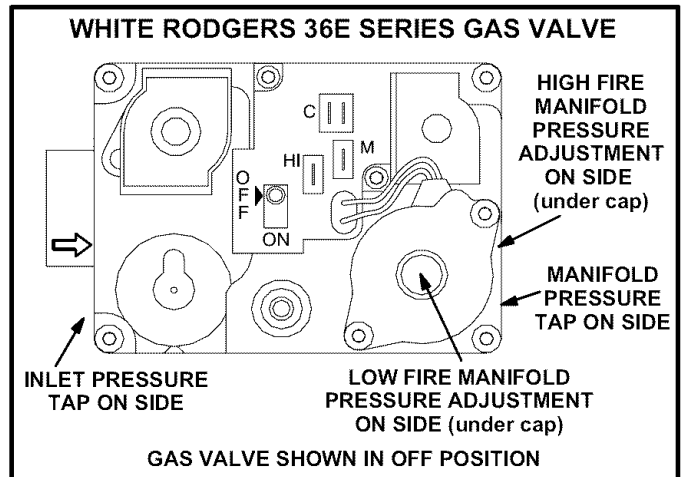
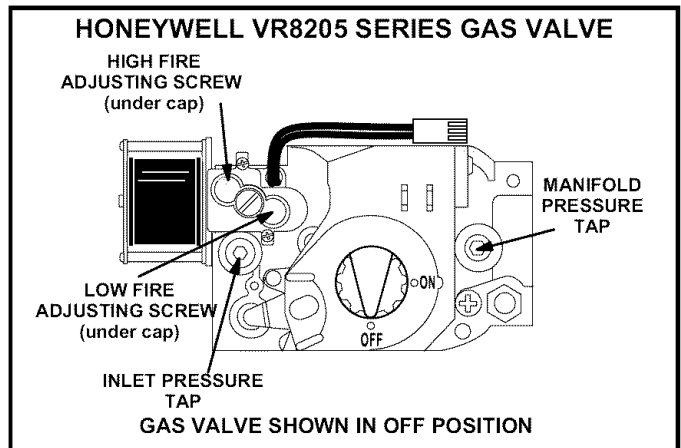

FIGURE 58
FIGURE 59
Gas Valve Operation (Figures 58 and 59)
- 6 - *White Rodgers 36E Gas Valve* - Switch gas valve lever to **OFF**. See figure 58 for the White Rodgers 36E valve. *Honeywell VR8205 Gas Valve* - Turn knob on gas valve clockwise  to **OFF**. Do not force. See figure 59.
- 8 - *White Rodgers 36E Gas Valve* - Switch gas valve lever to **ON**. See figure 58 for the White Rodgers 36E valve. *Honeywell VR8205 Gas Valve* - Turn knob on gas valve counterclockwise  to **ON**. Do not force.